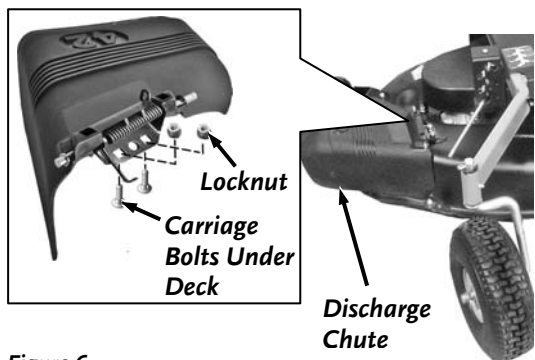

Figure 6
1. From below, insert the two Carriage Bolts up through the holes in the Deck. (Figure 6).